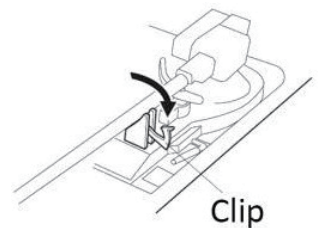

Fig 2
7. Place a record onto the turntable spindle and unclip the tone arm(fig. 2)